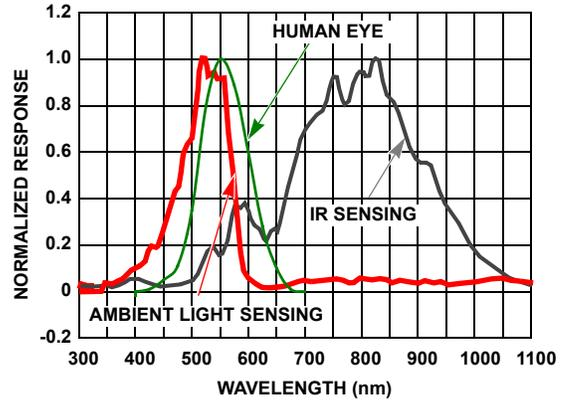

FIGURE 4. NORMALIZED SPECTRAL RESPONSE FOR AMBIENT LIGHT SENSING AND IR SENSING
The ISL29023 contains two photodiode arrays, which convert light into current. The spectral response for ambient light sensing and IR sensing is shown in Figure 4, on page 4. After light is converted to current during the light signal process, the current output is converted to digital by a built-in 16-bit Analog-to-Digital Converter (ADC). An I²C command reads the ambient light or IR intensity in counts.
When the part is programmed for ambient light sensing, the ambient light with wavelength within the “Ambient Light Sensing” spectral response curve in Figure 4 is converted into current. With ADC, the current is converted to an unsigned n-bit (up to 16 bits) digital output.
When the part is programmed for infrared (IR) sensing, the IR light with wavelength within the “IR Sensing” spectral response curve in Figure 4 is converted into current. With ADC, the current is converted to an unsigned n-bit (up to 16-bits) digital output.